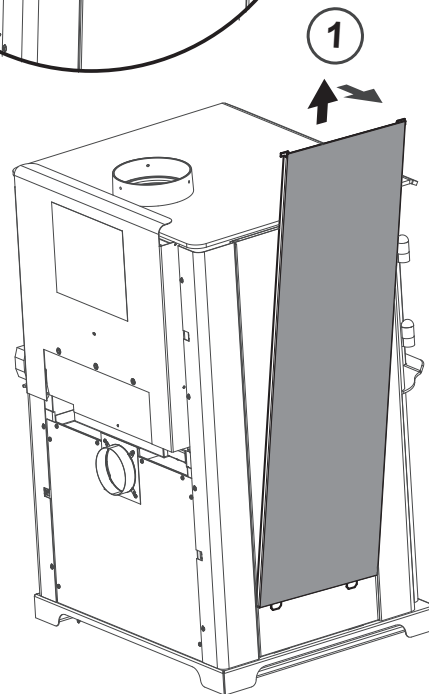

Figure 17.4
1. Remove solid panel from side by lifting up and pulling away from appliance (use a flat tool to pry from bottom if needed). **Figure 17.4**
2. Remove tile frame from side by lifting up and pulling away from appliance (**Figure 17.4 reference solid side panel removal**).